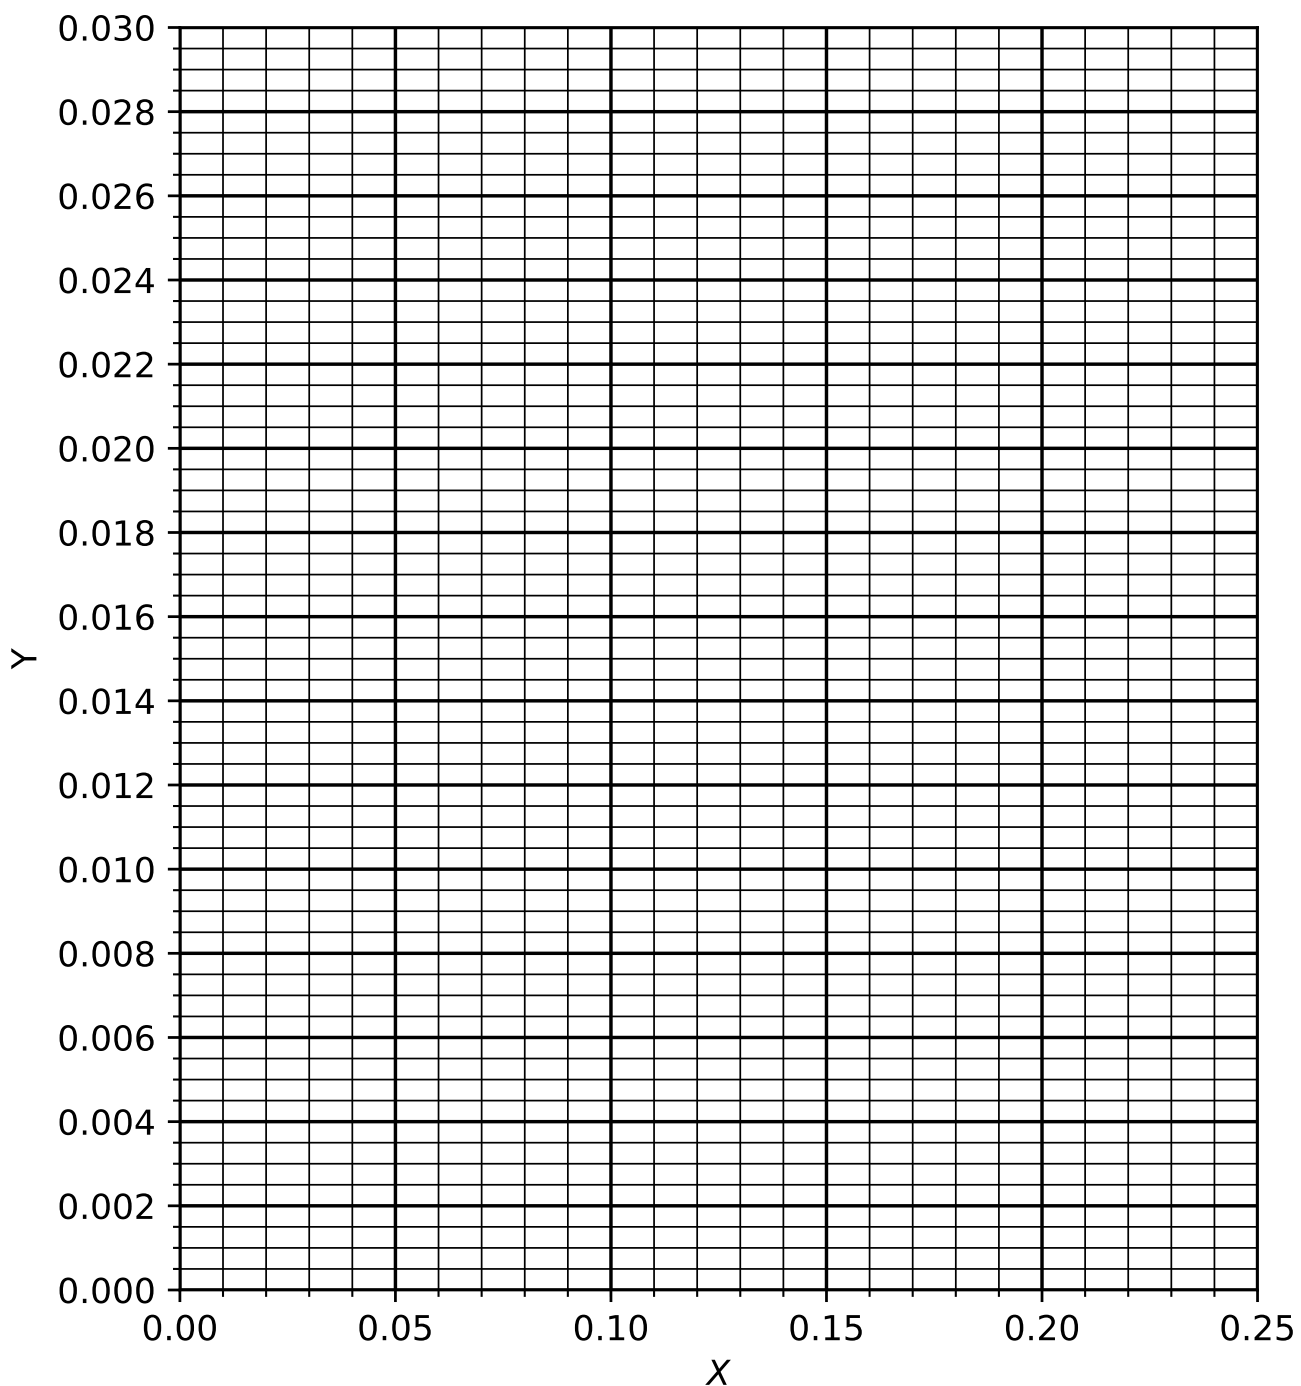

Figure 23: A blank X-Y graph for use in Q. 7.33.
- b) Determine the number of real plates required. A blank X - Y graph is provided in Fig. 23. **[10 marks]**